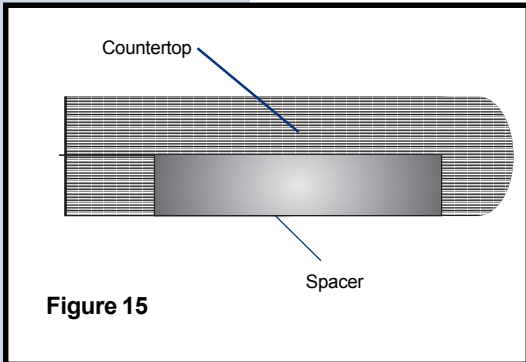

Figure 15
- 2 If necessary, mount a 1" x 4" x 24" wood support to the underside of the counter prior to installing the dishwasher. **See Figure 15.**